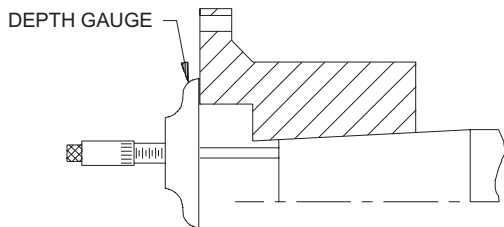

Figure 1. Measuring Hub Overhang
- 2.4 Clean the hub bore and shaft. For straight bores, proceed to step 2.6. For taper bores, mount the hub handtight on the shaft and lightly rap it with a soft mallet to establish the initial line-to-line fit. This is the START position. With a depth gauge, measure the amount the hub overhangs the shaft end and record this value. See Figure 1.
- 2.7 Place the hub in the proper position on the shaft. Hold the hub in place as it cools. For taper bores, verify the hub advance (see Figures 1 and 2) and install the shaft retaining nut. Remove the split collar from the shaft.